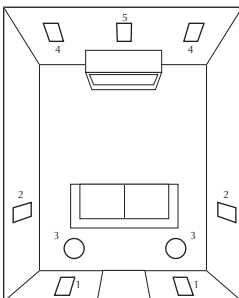

Figure 4
Russound ceiling-mount speakers (Figure 4) may be used for rear surround sound channels by placing them (1) behind, (2) on each side of the viewing position or (3) in the ceiling just behind the viewers. The available SP-A6W and SP-A8W wall-mount speakers also make excellent, unobtrusive front channel home theater speakers for 5-channel listening (4,5). Optimally, Russound wall-mount speakers should be located with the tweeters at ear level when the listener is seated.